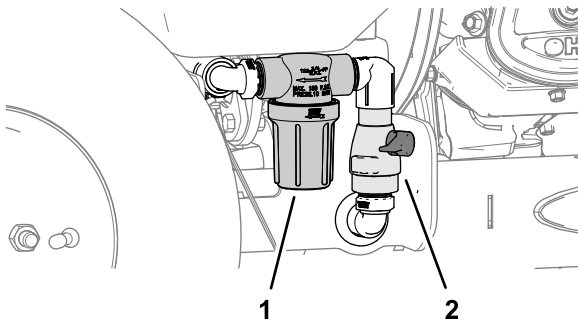

Figure 51
2. Rotate the handle of the pump-shutoff valve 90° counterclockwise to the CLOSE position (Figure 51).
3. Align a drain pan under the strainer (Figure 51).
9. Rotate the handle of the pump-shutoff valve 90° clockwise to the OPEN position (Figure 51).